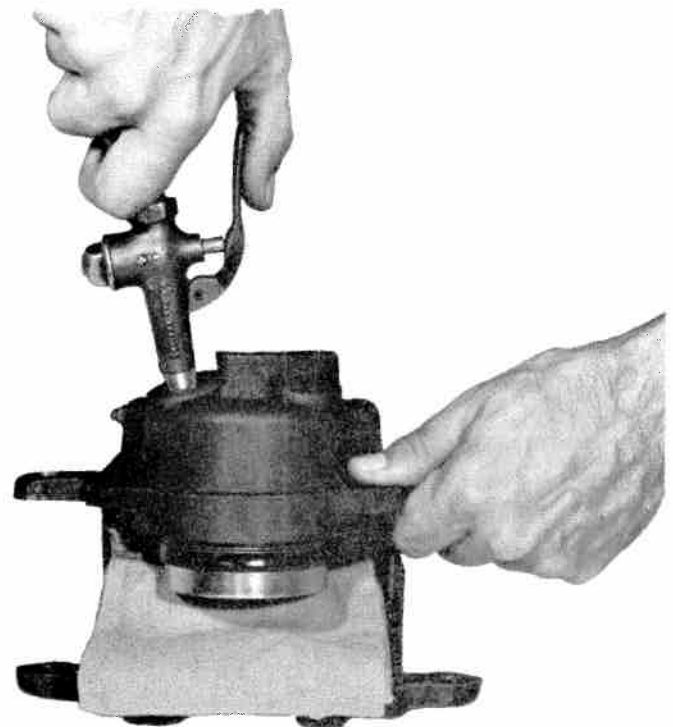

Fig. 9-44 Piston Removal
(5) Clean brake hose-to-caliper connection thoroughly. Remove hose-to-caliper bolt. Cap or tape open connections to keep out dirt. Discard copper gaskets.
(6) Remove caliper assembly and remove shoes from caliper.
(7) Clean caliper exterior with clean brake fluid. Drain residual fluid from caliper. Place caliper on clean work surface.
(8) Pad the interior of the caliper with clean shop towels. Insert air nozzle into inlet hole in caliper and gently apply air pressure on piston to push it out of the bore (fig. 9-44).